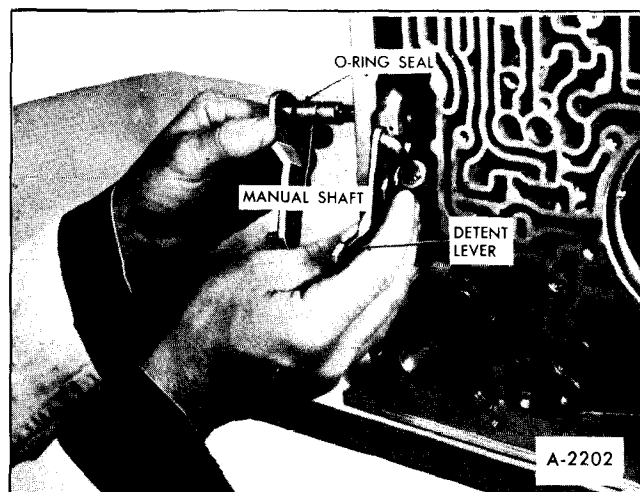

Figure 85—Installing Manual Shaft
6. Install the manual shaft assembly through the retaining lock nut on manual shaft, Figure 85.